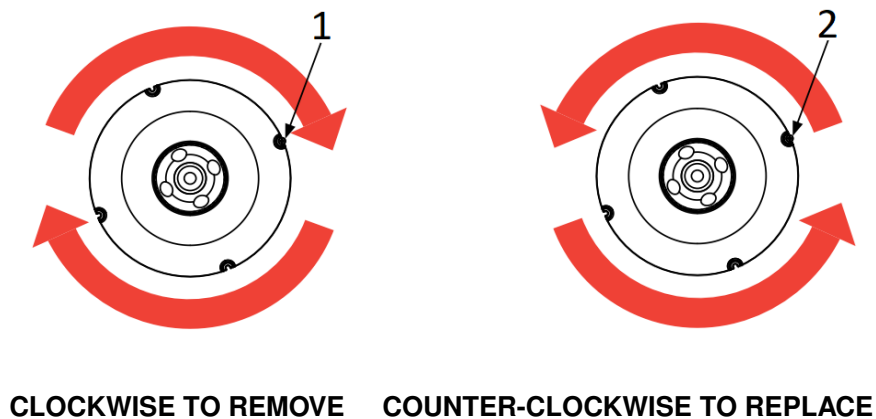

FIGURE 2: LED MODULE INSTALLATION
Each unit is carefully packed at the factory and comes with a construction debris cover that prevents most construction contamination prior to operation. Remove the light module from the body by first removing the LED Module Restraining Screw, and then turn the light module **CLOCKWISE** to remove (Figure 2). Install the debris cover. Put the light module in a safe place until ready for final installation.
C.1.5 After the system has been started, adjust the height of the water using this valve to get the desired effect. The following tables (FIGURE 2) provides approximate values for water column height with combinations of GPM